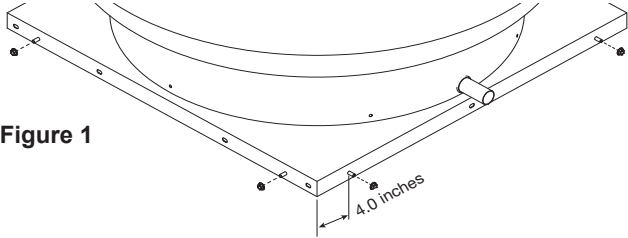

Figure 1
1. Before placing the unit on top of the curb and assembling this kit, install the 5/16"-18 X 3/4" L weld studs into the curb cap holes located about 4" from the corners, eight in total. See Figure 1.